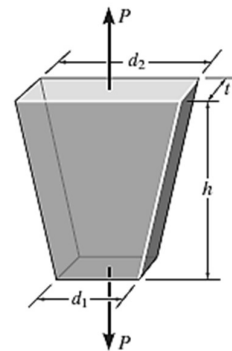

Fig. 8
8. Determine the relative displacement of one end of the tapered plate with respect to the other end when it is subjected to an axial load  $P$ . [Fig. 8]